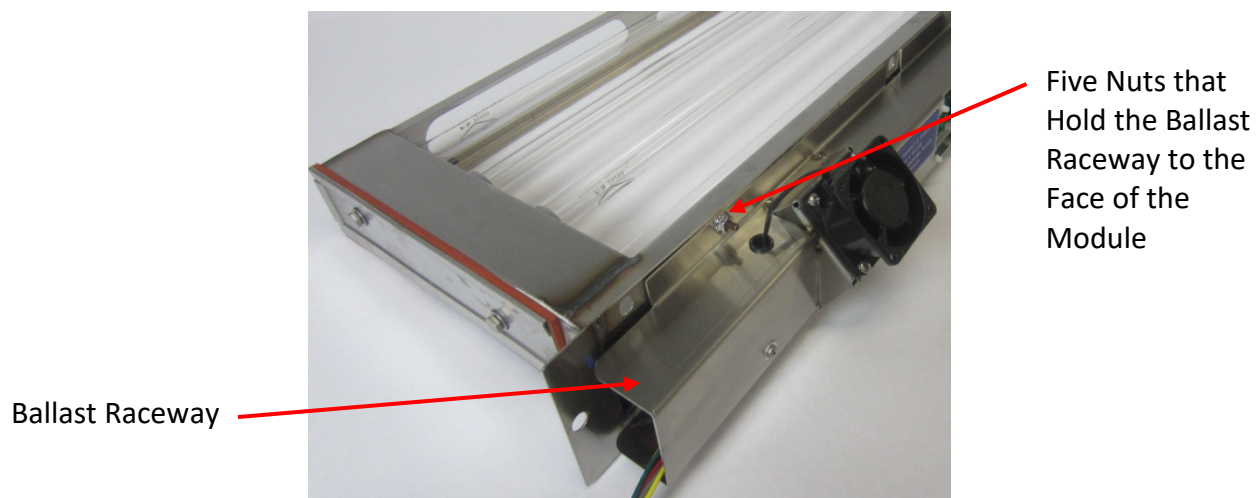
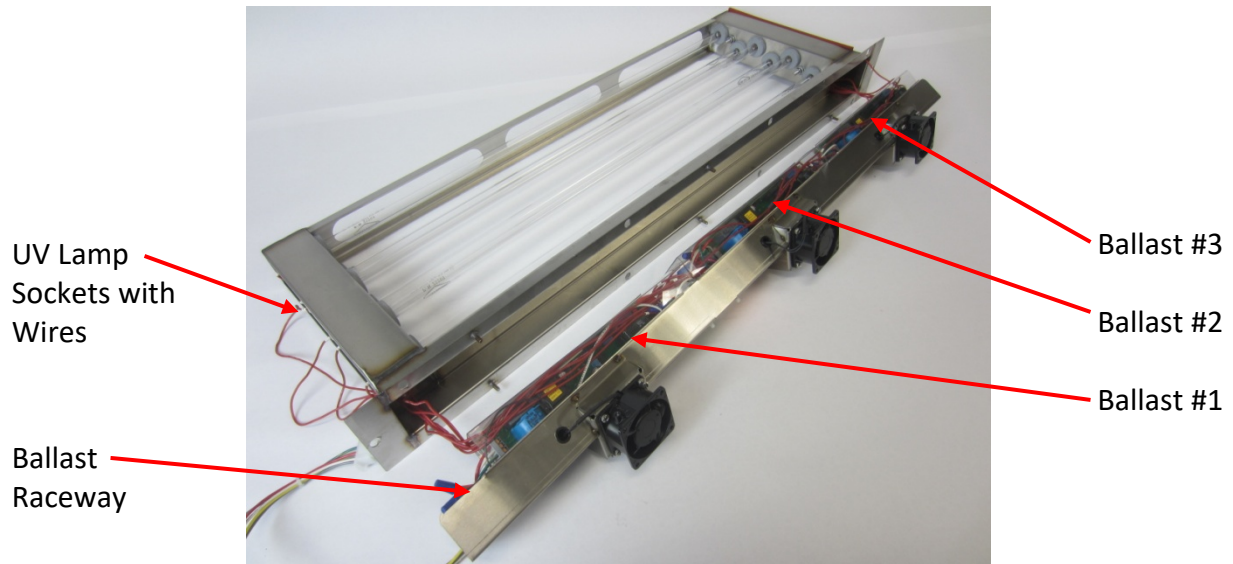

Figure 6-14-2
Figure 6-15-1
10. Next the Ballast Raceway must be removed. Using a wrench, remove the five nuts that hold the raceway to the face of the Module (Refer to Figure 6-14-2). Gently pull the Ballast Raceway off the Module as shown in Figure 6-15-1. The Ballasts are mounted to the removable Raceway (Refer to Figure 6-15-1).